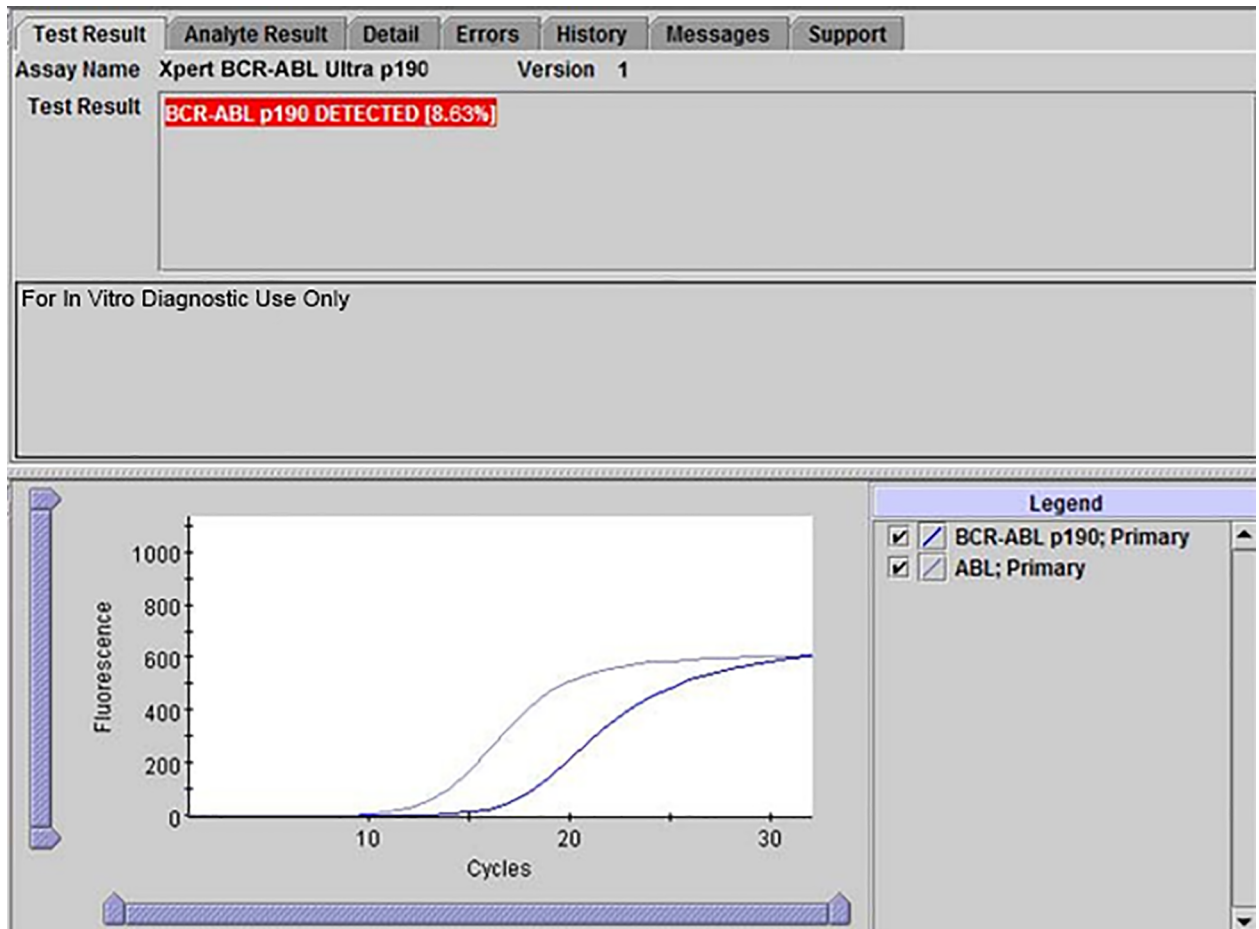

Figure 2. GeneXpert Dx View Results Window: BCR-ABL p190 DETECTED [8.63%]
| PASS  | PASS   | POS          | BCR-ABL p190 DETECTED [#.##%]                         | Calculated% ratio value is reported. See Figure 2.                                      |
**Result:** **BCR-ABL p190 DETECTED [8.63%]**. See Figure 2.